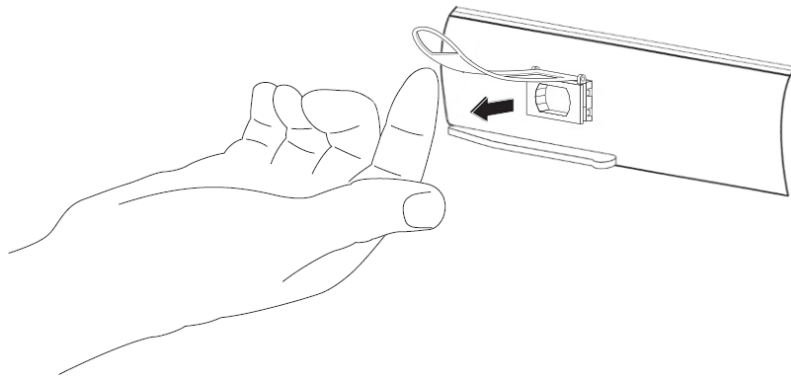

Figure 5 : Pulling the pull tab latch of a QSFP+ Module
3. Hold the pull-tab latch on the QSFP+ module with your index finger, and gently pull to release the transceiver from the socket, as shown in Figure 5.